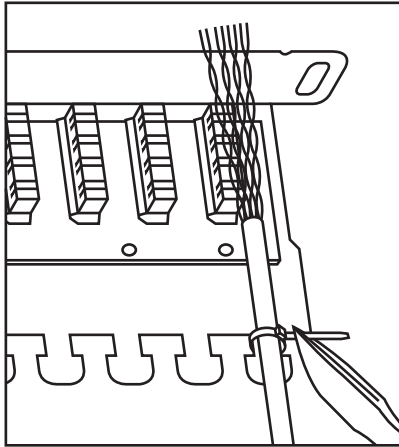

Figure 3. Cutting off surplus tie.
3. Cut off the surplus tie. See Figure 3.